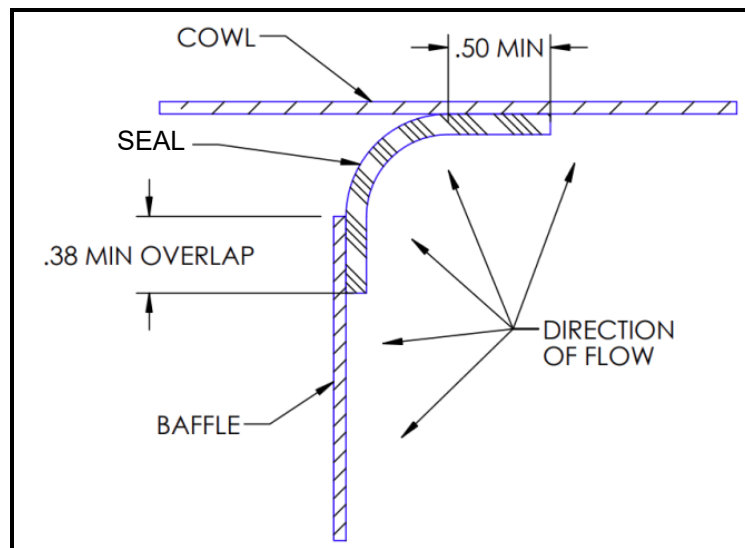

Figure 7 - Baffle-Seal-Cowl Interface
- c. Ensure that all baffle seals overlap in the appropriate direction. All seal should be flexed up and in toward the center of the upper air plenum. See Figure 7